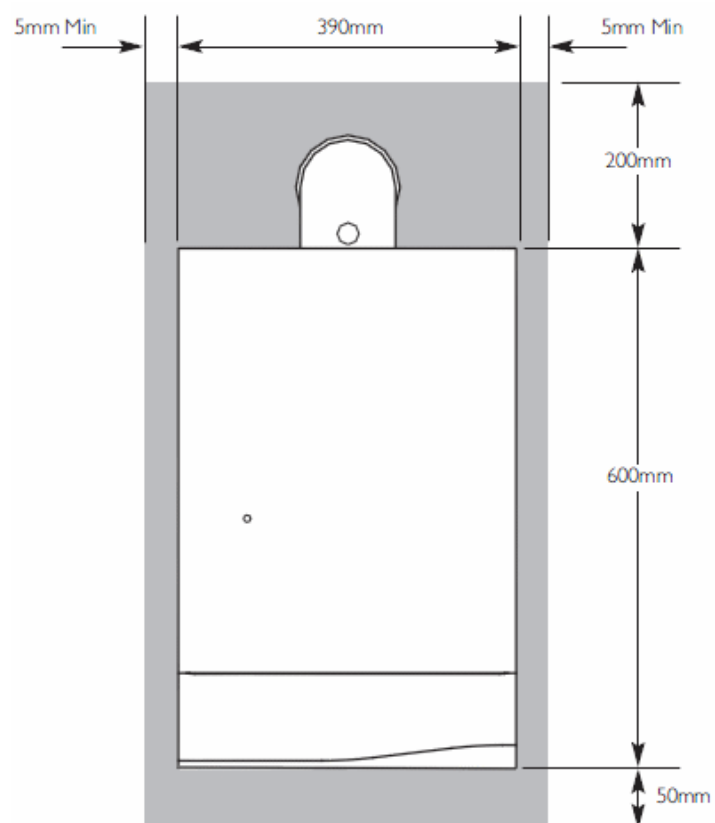

Fig. 15
7.3 Clearances (Figs. 15 & 16)